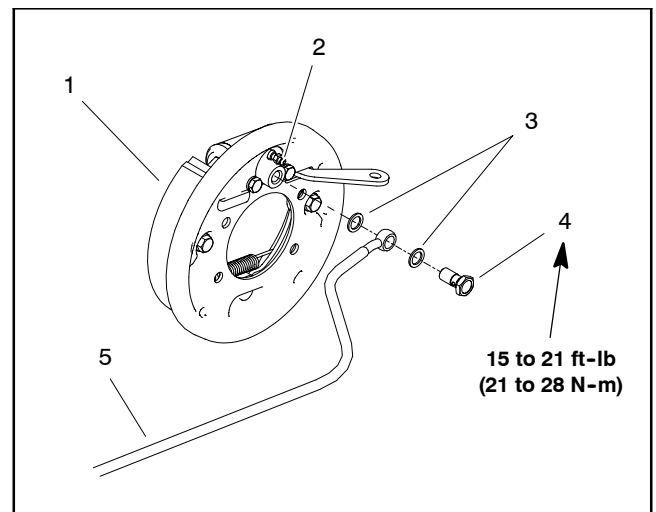

Figure 19
1. Position brake assembly to the transaxle. Secure backing plate of the brake assembly to the transaxle with four (4) socket head screws and flanged lock nuts. Torque screws to **20 ft-lb (27 N-m)**.
2. Position new banjo washer on each side of brake line fitting (Fig. 19). Insert banjo bolt into fitting and thread into wheel cylinder. Torque banjo bolt from **15 to 21 ft-lb (21 to 28 N-m)**.